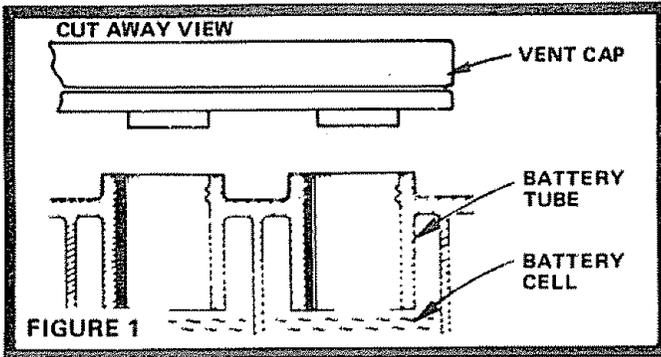

FIGURE 1
- a. Fill Battery with electrolyte to bottoms of tubes in cells (Fig. 1). NOTE: DO NOT OVERFILL. OVERFILLING WILL RESULT IN DAMAGE TO TRACTOR.